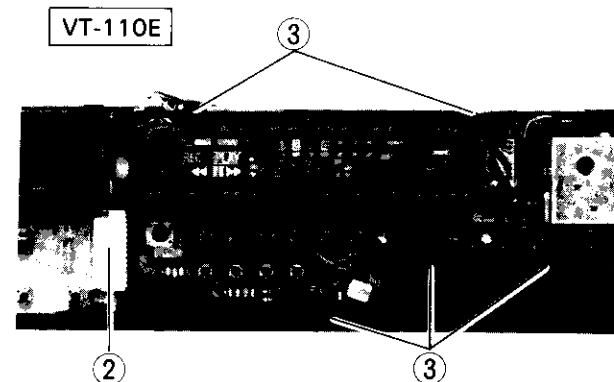

Fig. 3 Timer Circuit Board
3. Timer Circuit Board (Figs. 3 and 4)